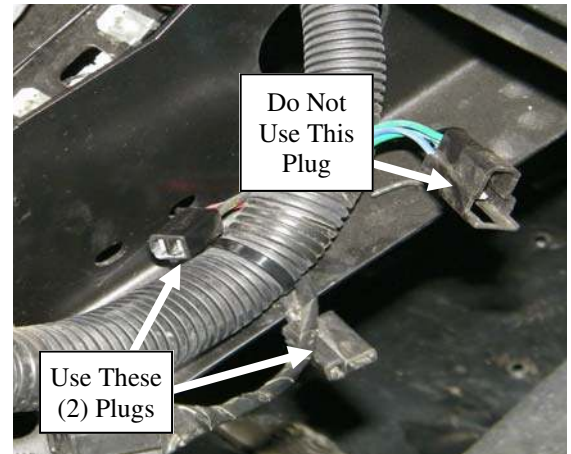

FIGURE 4.2
4.2. Route the wiring from the switch to the driver's side beneath the dashboard. Plug in to the mating connectors on the vehicle wiring as seen in Figure 4.2. The black and red heater wire with male terminals should mate up with the black and red vehicle plug. The black and yellow heater wire with the male terminals should mate up with the black and yellow vehicle plug.